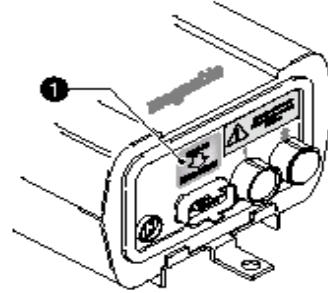

Fig. 10 – „Emergency Lowering“
- Press the yellow button (see Fig. 10, ①)